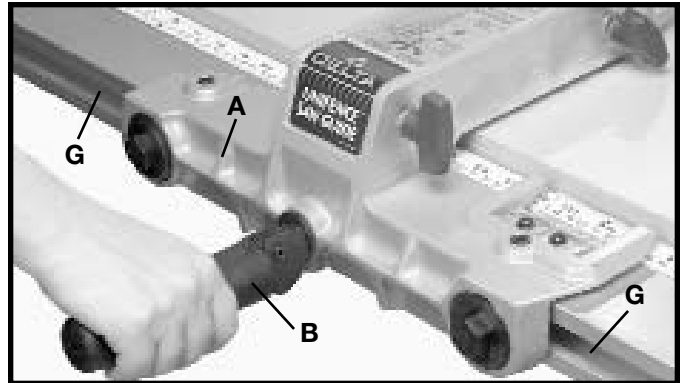

Fig. 33
2. Place fence body (A) Fig. 33, onto the guide rail as shown, making sure clamp bracket is inserted into channel (G) on rail. Notice that the clamp handle (B) is turned to the left indent position.